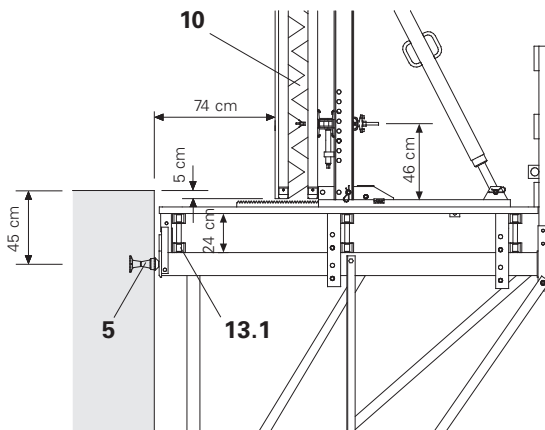

Fig. C1.09.1
Depending on the height of the girder (13.1), place the formwork (10) higher or lower. (Fig. C1.09.1 + C1.09.2)